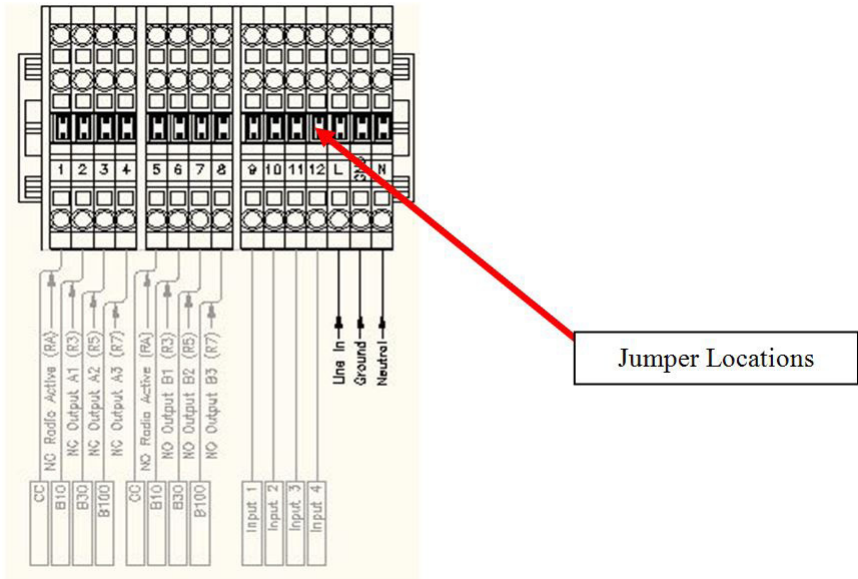

Figure 3. Power Connections
All field power connections are made using cage clamp style terminal blocks, see Figure 3. Additional terminal block entry points are provided for jumpers and field connections. Wire connections to these terminal blocks are made as follows
Choose a suitable power source with a primary interrupt breaker or fuse. Any source from 90V to 264V AC, 50-60 Hz may be connected. Make the following connections: (see figure 3)
1. Major radio receiver subcomponents include the RE101 receiver, RE L12DWD controller; RE-TLD switched power supply, relays, terminal blocks and cabinet heater. Power inputs are made at the terminal block (see Figure 3) using any voltage source from 90-264Vac (50 or 60 Hz). A single on/off switch controls power to all receiver components and is supplementary protected by a 5A inline fuse.